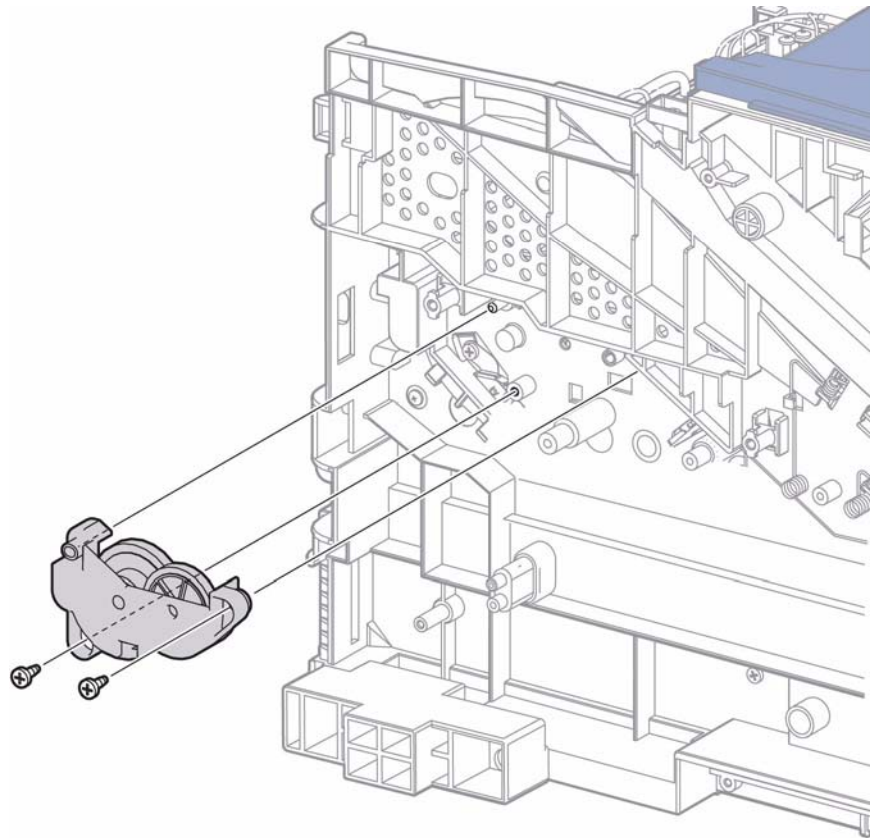

Figure 5 Remove the Dispense Drive Assembly
15. Refer to Figure 5 to locate and remove 2 screws (silver, tapping, 10mm) that secure the Dispense Drive Assembly to the chassis.